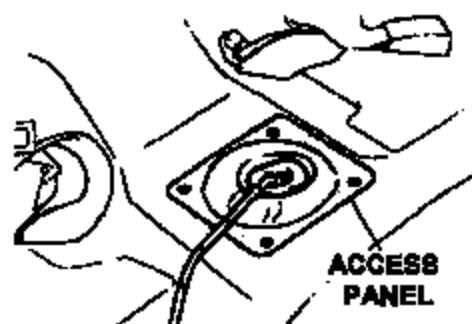

Figure 3
8. Remove the four (4) fuel pump module access panel screws and then remove the access panel (Figure 3).
21. Install the fuel pump module access cover (Figure 3). Tighten the access cover screws securely.